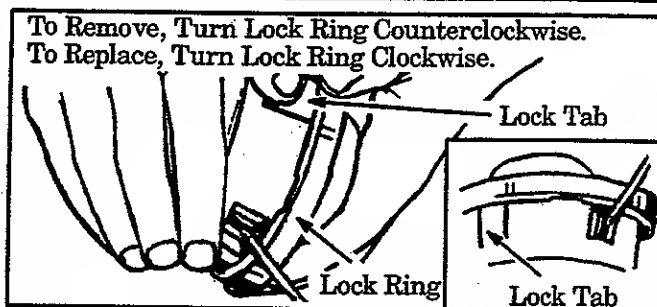

Figure 15
- a. Press lock tab and turn lock ring. Figure 15 .
- f. Align the lock ring over the three catches on the hub. Push the lock ring down on the hub and turn as shown in Figure 15 .